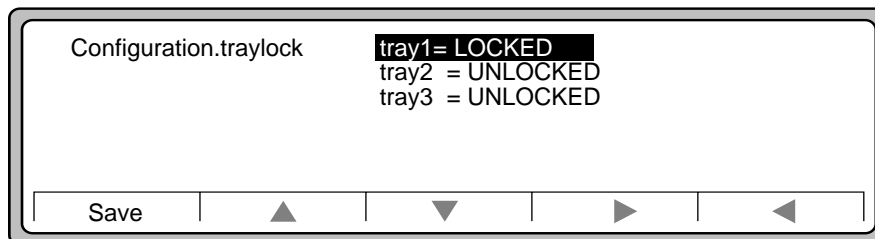

Figure 3-30 Tray 1 locked
9. Press Select. You return to the Configuration.traylock screen with tray1 locked (Figure 3-30).